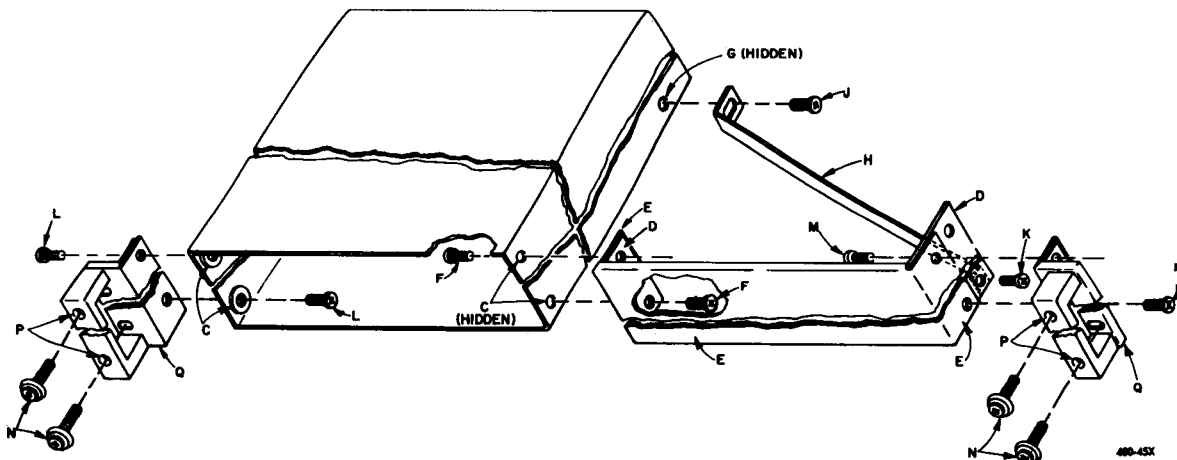

Figure 2-2. Method of mounting the air-bath capacitor and a blank panel in a relay rack.
j. Attach the other Rack Adaptor Assembly (Q, including handle) to the wide flange on liner (D) and the flange on the blank panel (E). Use two 5/16-in. screws (M) through the two holes in the flange that are nearest the assembly. Again, the screws enter in opposite directions.
l. Place a straight edge across both the instrument panel and the blank panel. Loosen the screw (J) through the slot in the support bracket (H). Exert a slight pressure on the blank panel (E), so that it forms a straight line with the instrument panel, and tighten the screw (J) in the bracket, to lock the panels in this position.
m. Slide the entire assembly into the relay rack and lock it in place with the four 9/16-in. screws (N) with captive nylon cup washers. Use two screws on each side and tighten them by inserting a screwdriver through the holes (P) in the handles.
Two instruments of the same panel size can be mounted side-by-side in a standard 19-in. relay rack. Use the mounting procedure, substituting the second instrument for the blank panel. Do not use the support bracket (H, Figure 2-2), but insert 3 screws through the bosses in the adjacent sides of the cabinets, two near the front (C) and one near the rear (G). The four feet must be removed from each cabinet to prevent interference with any instrument mounted directly below the capacitors. Use the four screws (N) with nylon washers to lock the instruments in the rack. The required hardware is listed below: